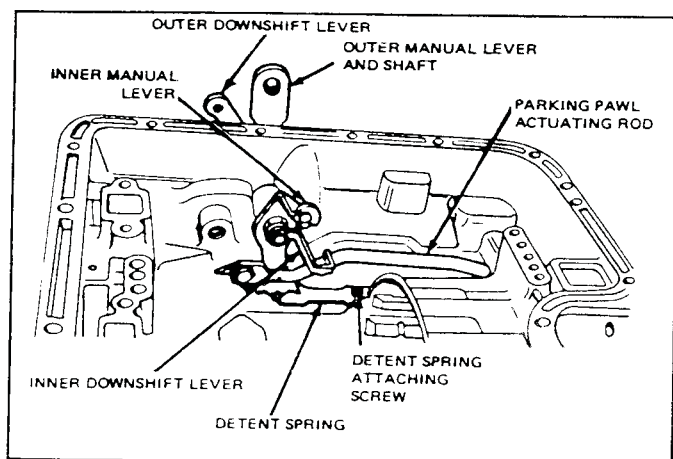

FIG. 29 Downshift and Manual Linkage
2. Slide the inner downshift lever assembly out from the inside of the case (Fig. 29). Remove the seal from the recess in the manual lever shaft.